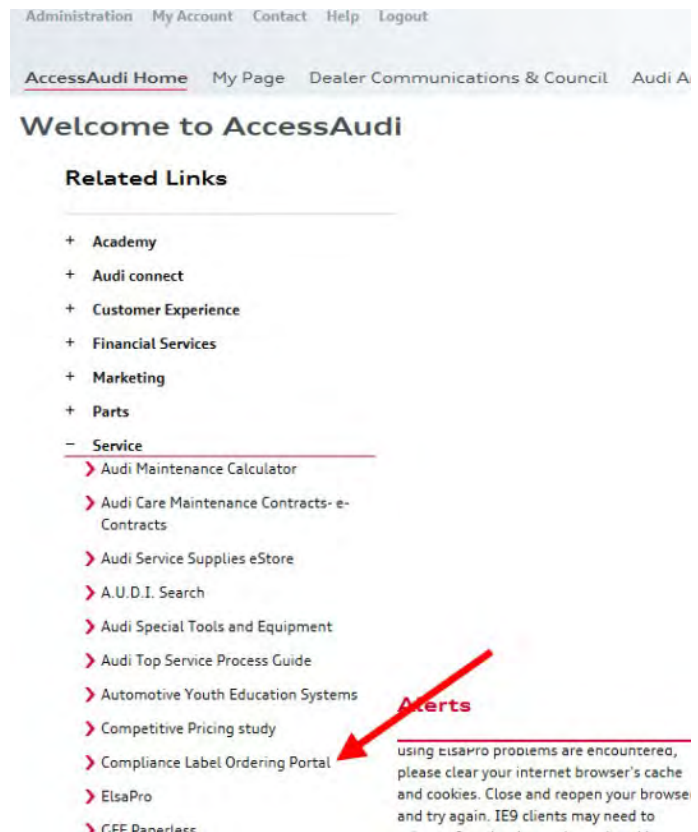

Figure 4. Compliance Label Ordering Portal.
- Order the fuel sample kit (part number LQ1LKIT) from the Compliance Label Ordering Portal under Service in AccessAudi (Figure 4).